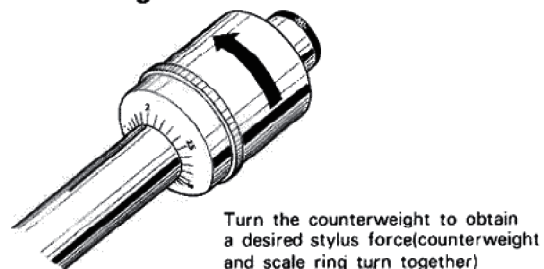

Fig. 12 Stylus force when set to 2 grams
- 5) Turn the counterweight to the arrow direction until your desired stylus force 2 grams, for instance, as in Fig. 12 is set in line with the tonearm reference line. (The counterweight and the stylus force scale are coupled with friction to each other so that, when the counterweight is turned, the stylus force scale will turn together with it, contrarily however, as the stylus force scale is turned, the counterweight will not turn, because the friction between the counterweight and the tonearm body is larger than the friction between the counterweight and the stylus force scale.)